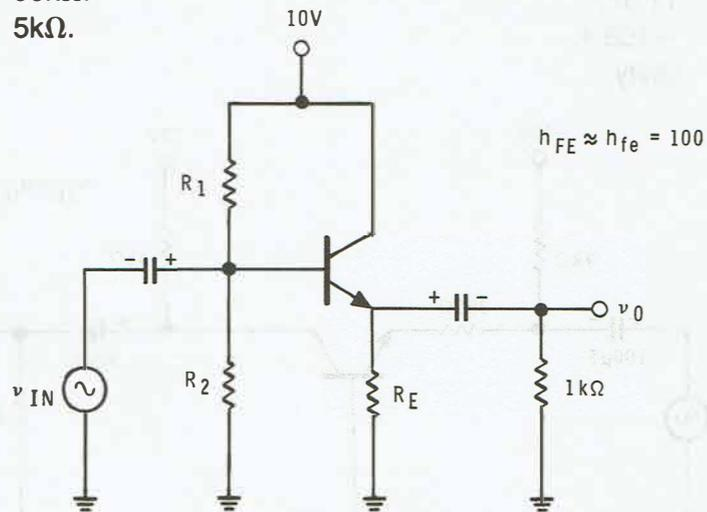

Figure 4-32
5. In Figure 4-32, a reasonable value for R_E is:
6. In Figure 4-32 if $R_2 = 10R_E$, R_1 , should equal:
7. In Figure 4-32 R_{IN} equals approximately: